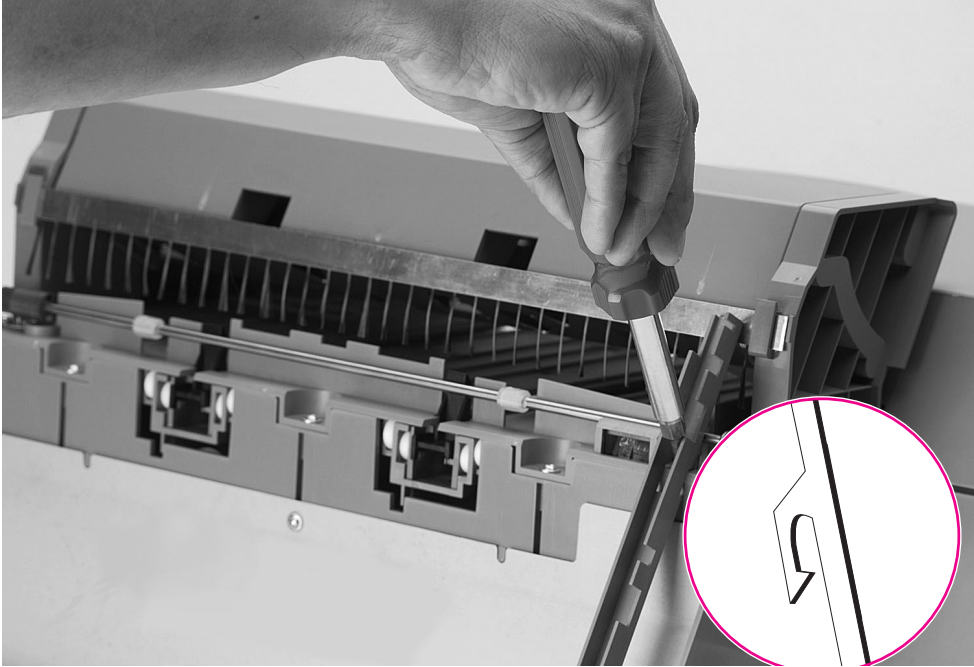

Figure 6-182 Back Plate (1 of 2)
- 2 Remove the Scan Bar by carefully pressing the tab on the scan bar backwards and downwards through the hole of the Stapler Bed (see figure 6-182) with a flat-tip screwdriver, then lift the bar.
- 2 Remove the Back Plate (see figure 6-182).
- 2 Open the Top Cover Assembly, and remove the Back Plate (see figure 6-182 on page 419).
- 2 Remove the Back Plate (see figure 6-182 on page 419).